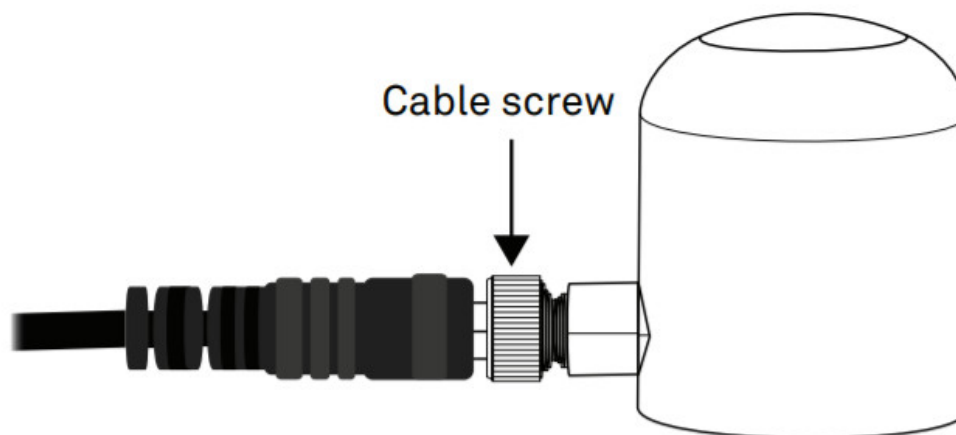

Figure 1 Attach M8 connector
2. Tighten the cable screw to maximum hand-tight (Figure 1).